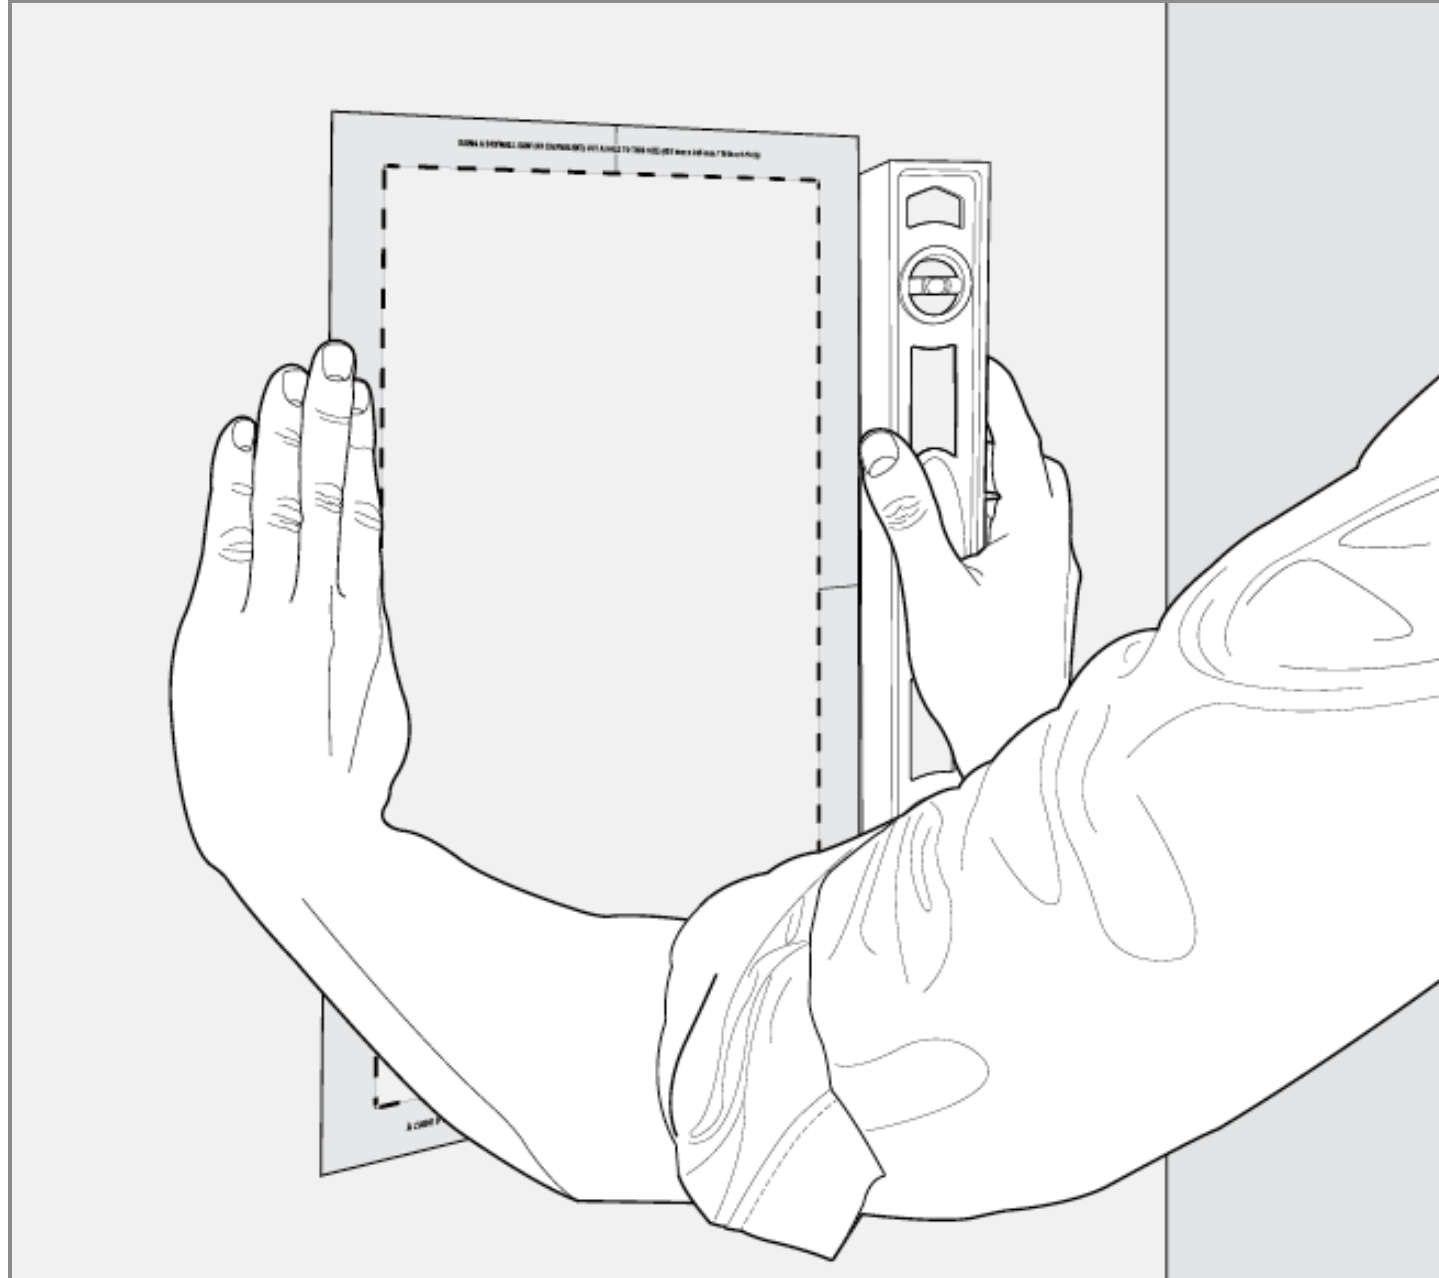

Fig. 2a
- 1) Place the mounting template onto the wall. Use a level to make sure it's straight (Fig 2a).